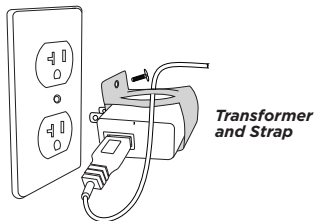

Figure 3
3. Fit the transformer strap on the transformer, ensuring the strap slit is facing up and the adapter plugs are fed through the strap plug openings. See Figure 3.